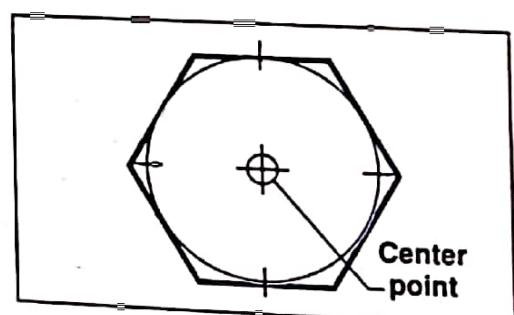

Fig. 19.20 Use of polygon command specifying center point
- (v) Type any value, press enter. See Fig. 19.20.